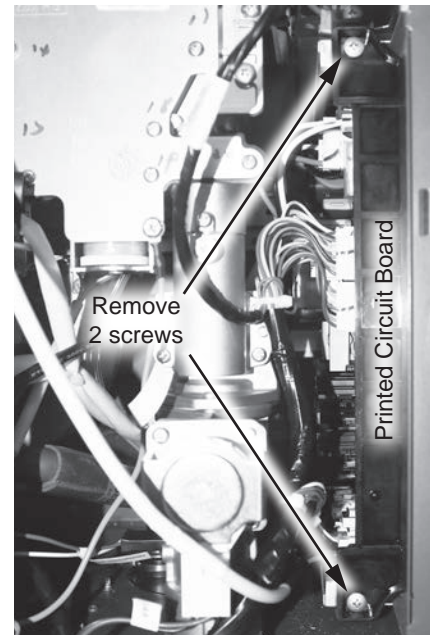

Figure 15 - Removing PCB screws
- 8 Locate the Printed Circuit Board on the right side of the water heater. Use a Phillips screwdriver to remove the two screws securing the PCB. Place screws aside in a safe place for reinstallation. See Figure 15.